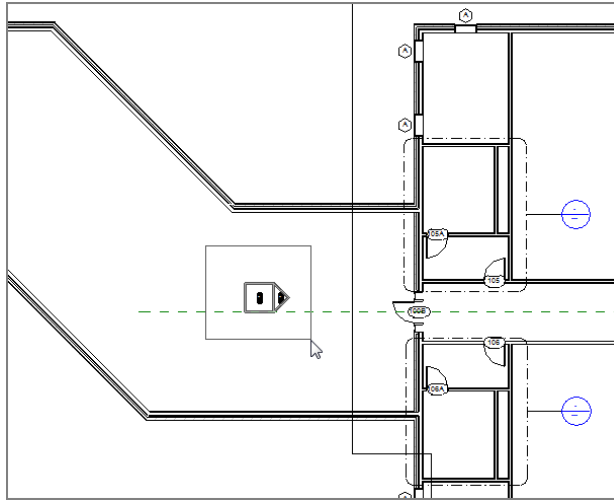

FIGURE 3.74 : The elevation marker is right in the way!
I saved the best view—or at least, the most popular—for last. Elevations are essential for any project—so essential, in fact, that Revit provides four of them before you place a single wall into the model. The four shapes that represent houses that were in the model at the beginning of the book are elevation markers, as shown in Figure 3.74. These markers are typically handy but are most certainly now in the way. The first thing you need to do is to move one of them out of the way. The second thing you need to do is to create a few new ones!
1. Go to the Level 1 floor plan. In the eastern part of the corridor is an elevation. Yours may be in a slightly different location than the book's example, but it needs to be moved nonetheless (see Figure 3.74).